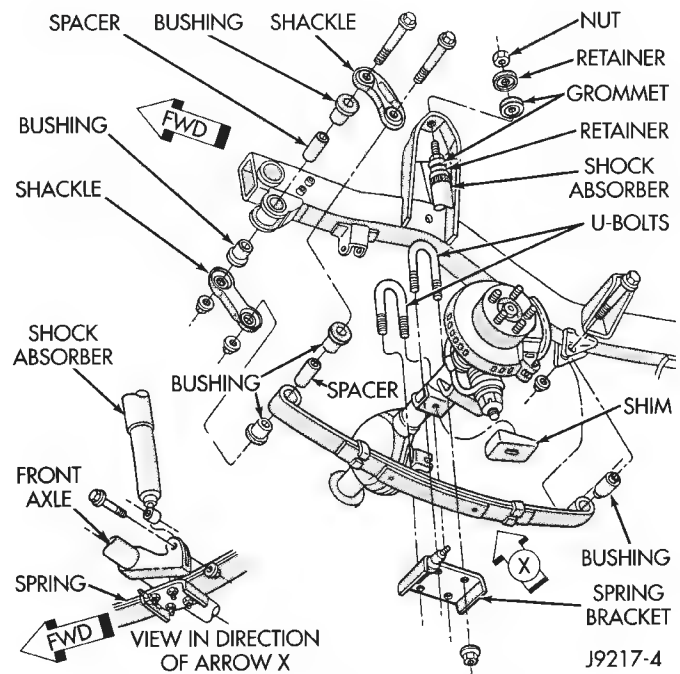

Fig. 3 Spring & Shock Absorber
- (1) Remove the nut, retainer and grommet from the upper stud on the frame bracket (Fig. 3).
- (2) Raise and support the vehicle.
- (3) Remove the nut, washers and bolt from the shock absorber lower eye (Fig. 3).
- (4) Remove the shock absorber.
- (5) Remove the remaining grommet and retainer from the shock absorber stud.
- (1) Raise the vehicle.
- (2) Support the vehicle with jack stands placed under the frame.
- (3) Position a hydraulic jack under the axle. Raise the axle to relieve the axle weight from the springs.
- (4) Remove the stabilizer bar links attaching nut.
- (5) Remove the nuts, the U-bolts and spring bracket from the axle.
- (6) Remove the nut and bolt that attaches the spring front eye to the shackle (Fig. 3).
- (7) Remove the nut and bolt from the spring rear eye.
- (8) Remove the spring from the vehicle.
- (1) Position the spring front eye in the shackle. Loosely install the attaching bolt and nut. Do not tighten at this time.
- (2) Position the rear eye in the hanger bracket. Loosely install the attaching bolt and nut (Fig. 3). Do not tighten at this time.
- (3) Position the axle. Install the spring bracket, U-bolts and nuts (Fig. 3). Tighten the U-bolt nuts to 122 N·m (90 ft. lbs.) torque.
- (4) Attach the stabilizer bar links.
- (5) Remove the hydraulic jack.
(6) Remove the support stands and lower the vehicle.
(7) Tighten the front shackle plate nut (Fig. 3) to 135 N·m (100 ft. lbs.) torque.
(8) Tighten the rear eye bracket nut to 142 N·m (105 ft. lbs.) torque.